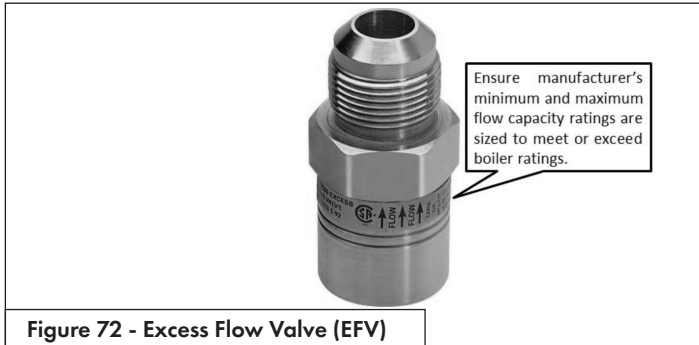

Figure 72 - Excess Flow Valve (EFV)
- The National Fuel Gas Code (NFPA 54) requires that a sediment trap (drip leg) be installed in the gas line on boilers not so equipped. The drip leg must be accessible, a minimum of 3" in length, and not subject to freezing conditions. See Figure 72.
- A manual gas shut-off valve should be installed in the gas supply line close to the boiler. See Figure 72.